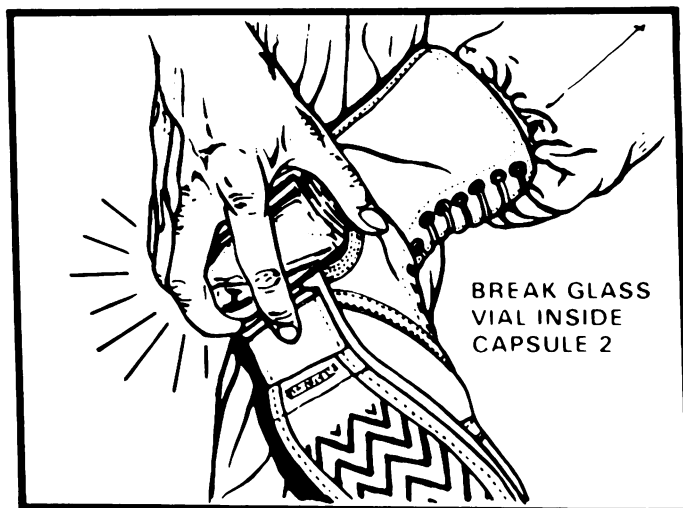

Figure 5
- g. Take out capsule 2 and break the glass vial inside the capsule on a hard, blunt edge such as your boot heel (fig 5).